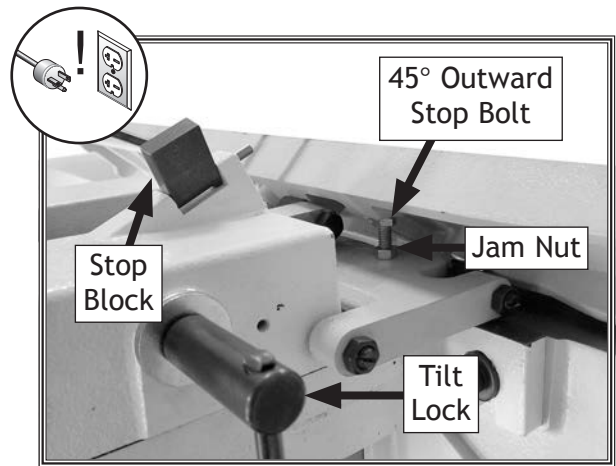

Figure 60. Fence set to 45° outward (135°).
2. Loosen fence tilt lock, rotate stop block up, then tilt fence approximately 45° outward (135°) onto stop bolt (see **Figure 60**).
4. Loosen jam nut on 45° outward stop bolt and adjust stop bolt until fence is exactly 45° outward (135°) outward while resting on stop bolt (see **Figure 60**). Verify angle, then retighten jam nut.